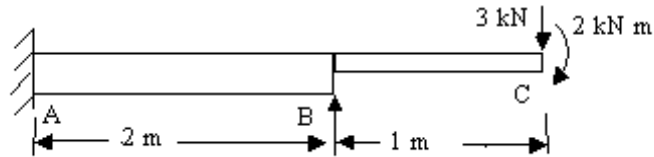

Figure 22:
- (b) Calculate deflections at B and C and reactions at A and B of a stepped cantilever beam of length 3m. Assume $E = 2 \times 10^5 \text{ N/mm}^2$, $I_{AB} = 400 \text{ mm}^4$ and $I_{BC} = 200 \text{ mm}^4$. Shown in figure 22. [4+12]